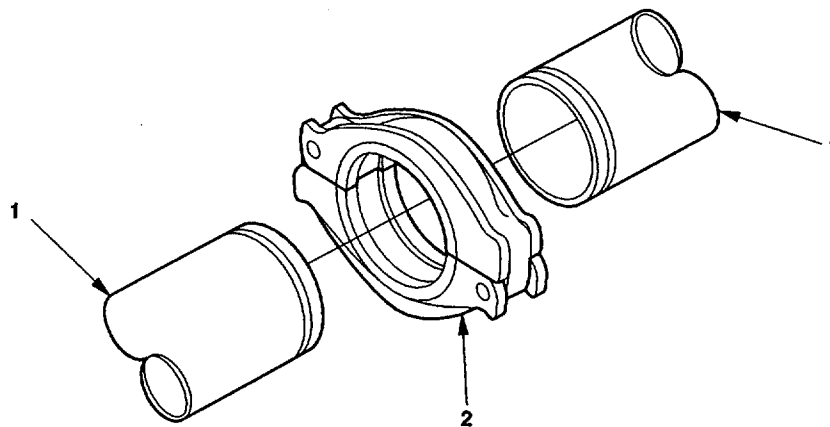

Figure 3-11. Repaired Hose Connection.
- x. Refer to paragraph 2.3.3.1 and connect hose ends (Figure 3-11, 1) with grooved-end pipe quick disconnect coupling clamp (2).